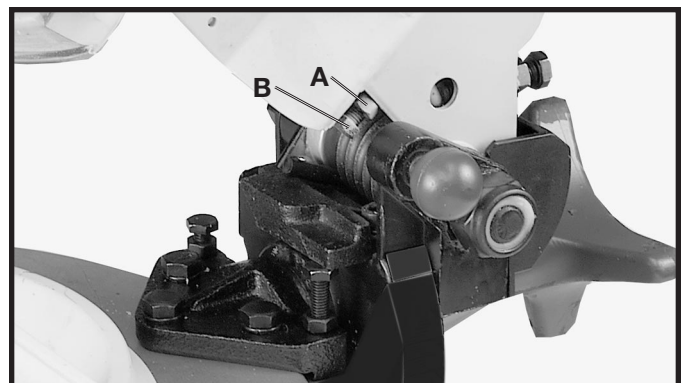

Fig. 25
1. The downward travel of the saw blade should be limited to prevent the saw blade from contacting any metal surfaces of the machine. This adjustment is made by loosening locknut (A) Fig. 25, and turning adjusting screw (B) in or out.
3. After the downward travel of the saw blade has been adjusted, tighten locknut (A)